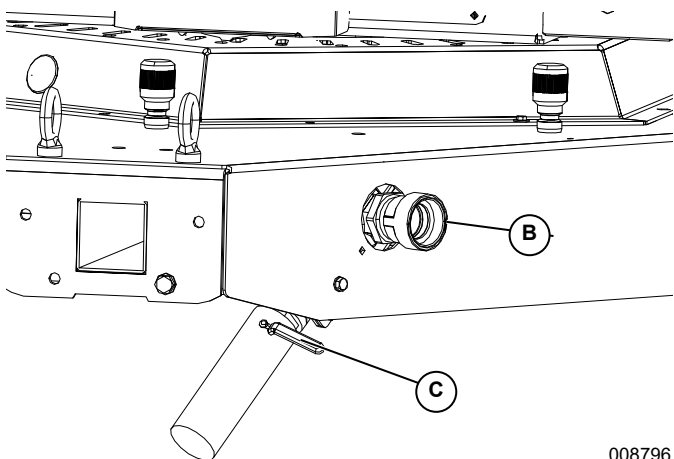

Figure 4-3. Disconnect Hose and Open Valve
1. See **Figure 4-3**. Open nozzle valves (A).
2. See **Figure 4-3**. Disconnect hose from inlet (B) and open inlet valve (C).
1. See **Figure 4-3**. Remove nozzle filter plug (C).